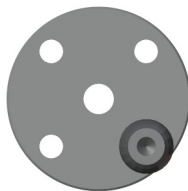

Figure 5.9: Flexion servomotor registration
2. Rotate the plate until the hole with the bolt is at the bottom right (figure 5.9).